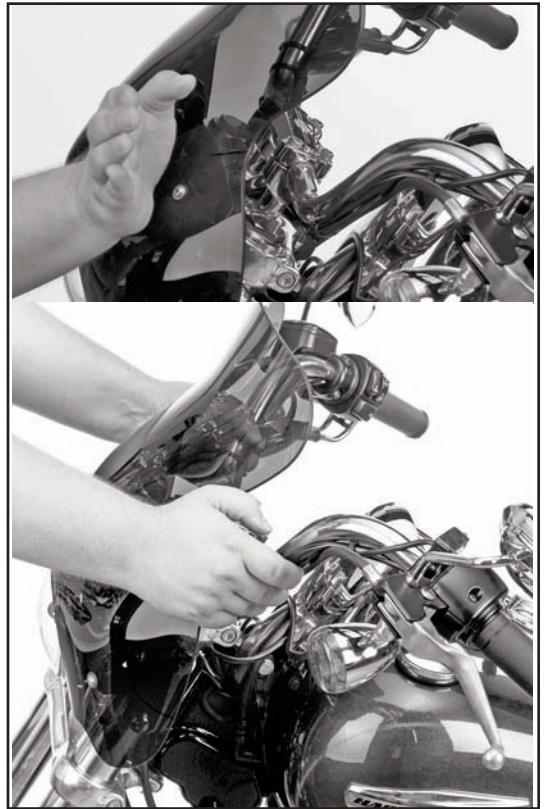

Figure 3
4. Straddle the front tire while holding your fairing at the area of the upper mount points. **Figure 3**
6. Pivot the fairing toward the bike. The upper notches of the brackets will line up with the center line of the upper spools on the mounting hardware. **Figure 3**
7. Use the handle bar of the bike to add pressure and push firmly until the upper notches slip over the upper spools. **Figure 3**